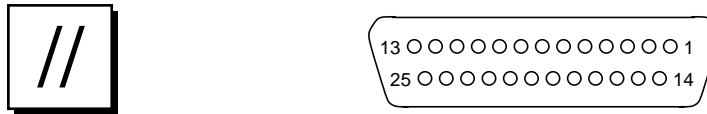

FIGURE 1-3 DB-25 Parallel Connector
- FIGURE 1-3 DB-25 Parallel Connector 1-4